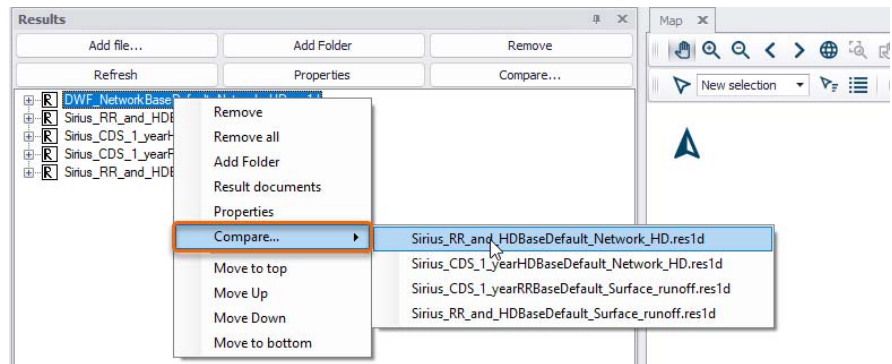

Figure 20.112 Compare results via the local context menu
- Alternatively, launch a file comparison via the results manager local context menu by right-clicking on a result file layer (Figure 20.112).